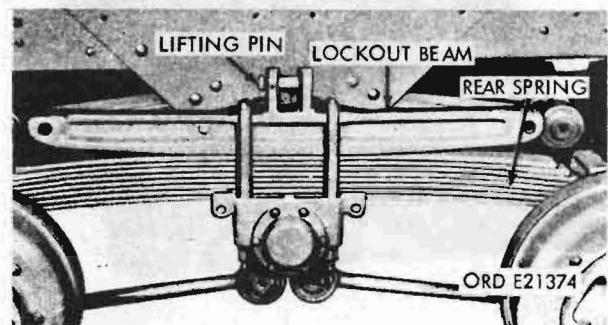

Figure 126. M108 rear spring and lockout beam
b. **Spring Lockouts (Fig. 126).** The front and rear springs on the vehicle are equipped with spring lockouts to protect springs under the boom loads.